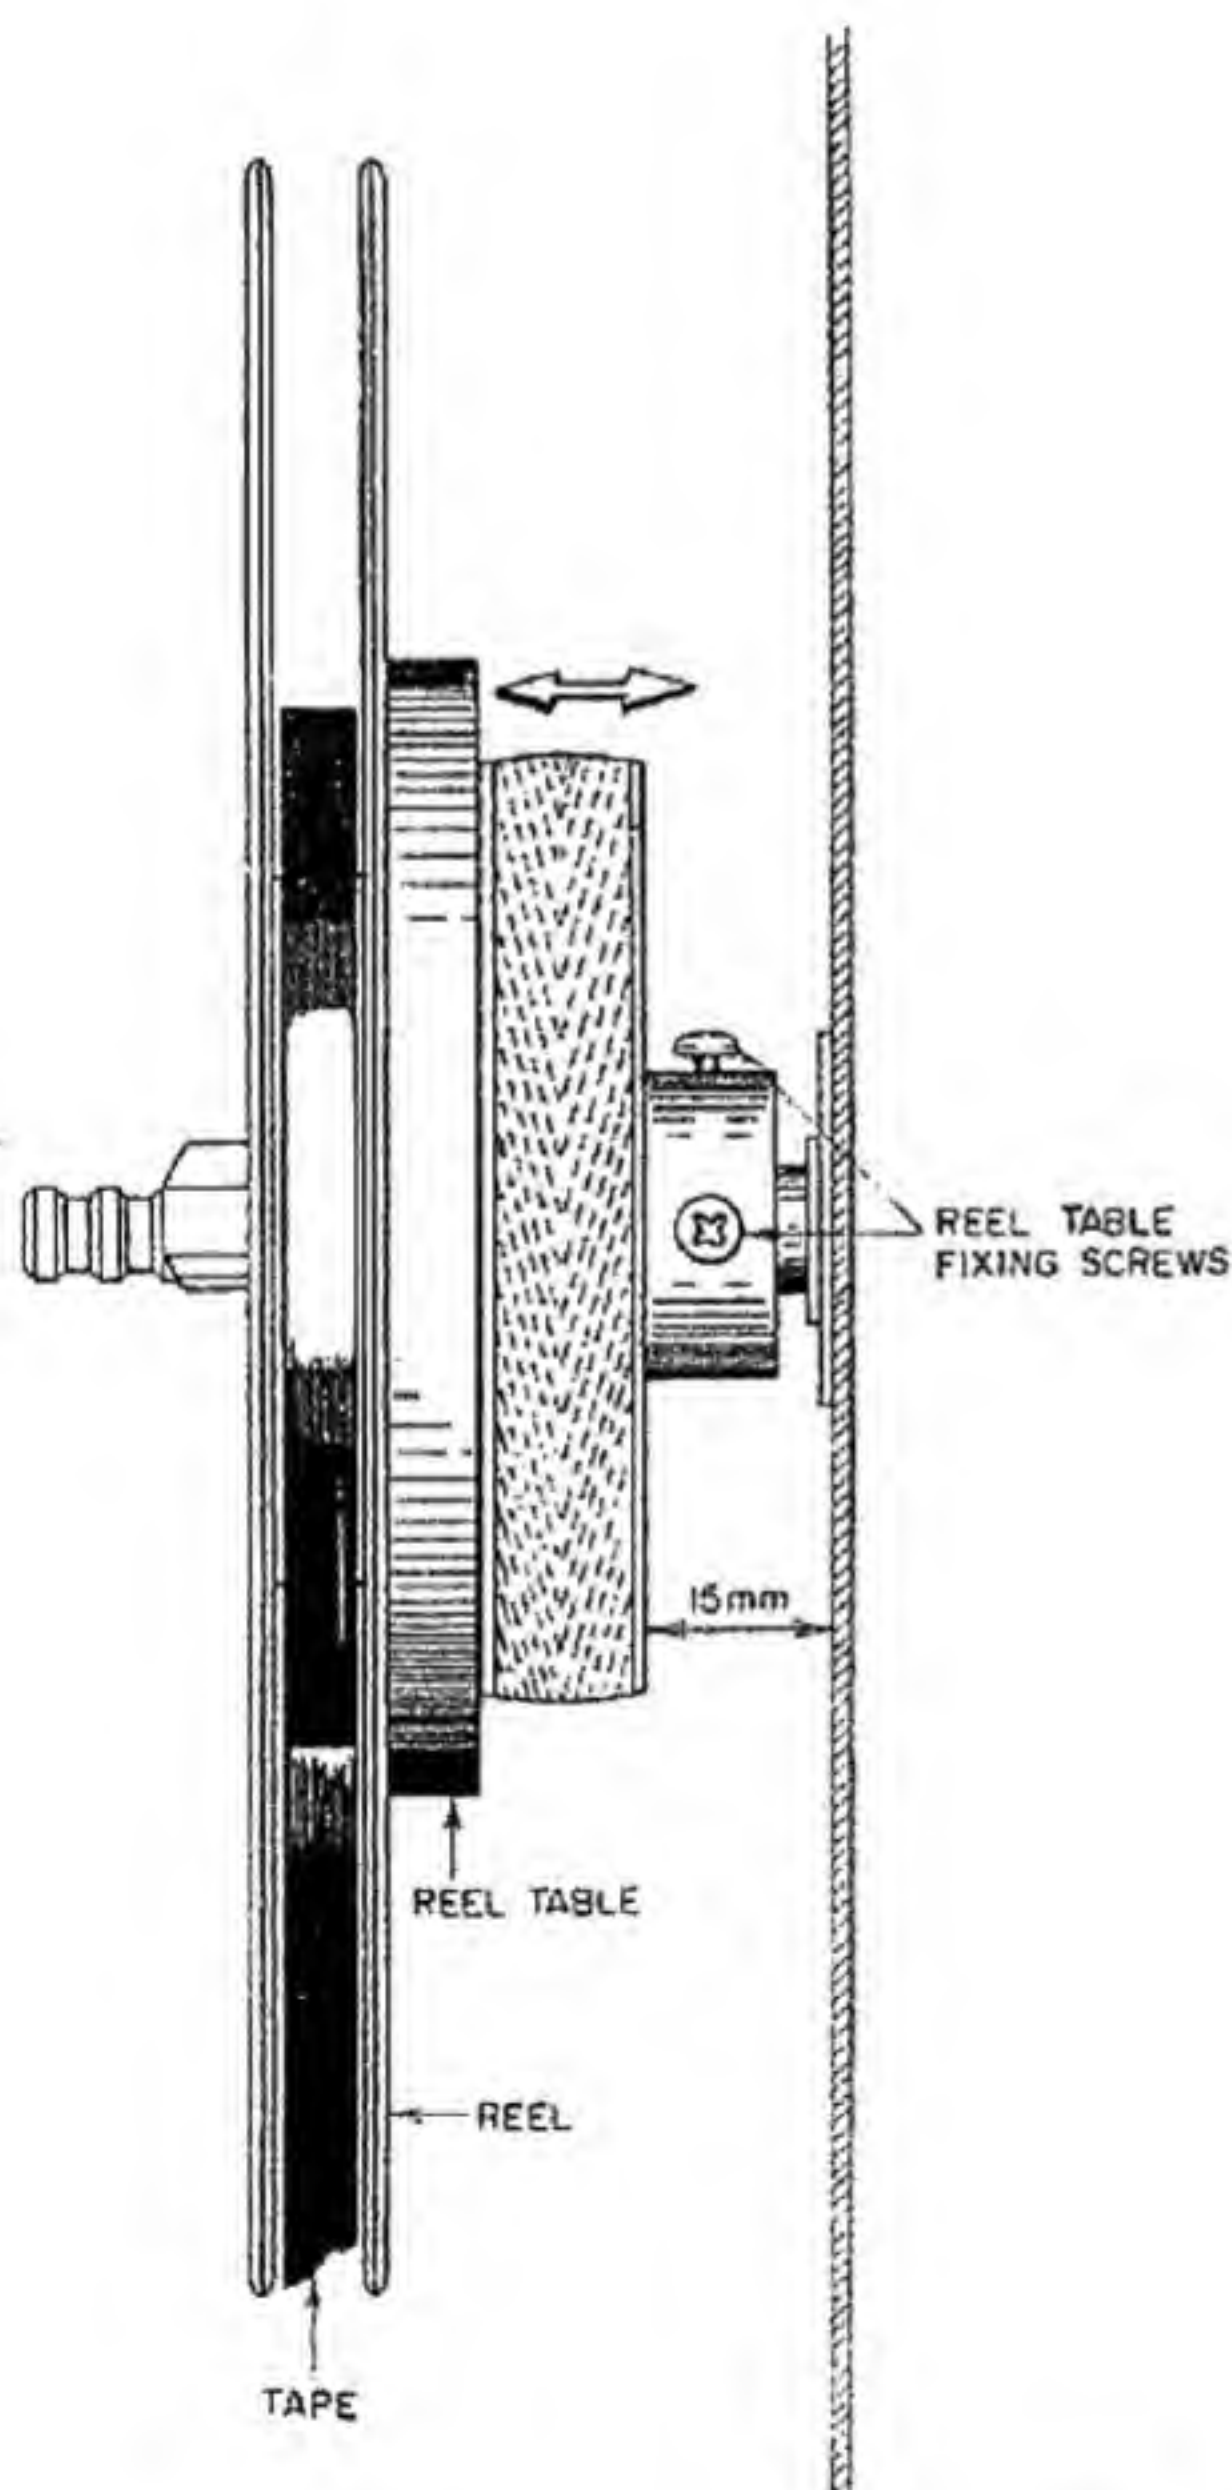

Fig. 34
3. REEL TABLE HEIGHT ADJUSTMENT (Refer to Fig. 34)